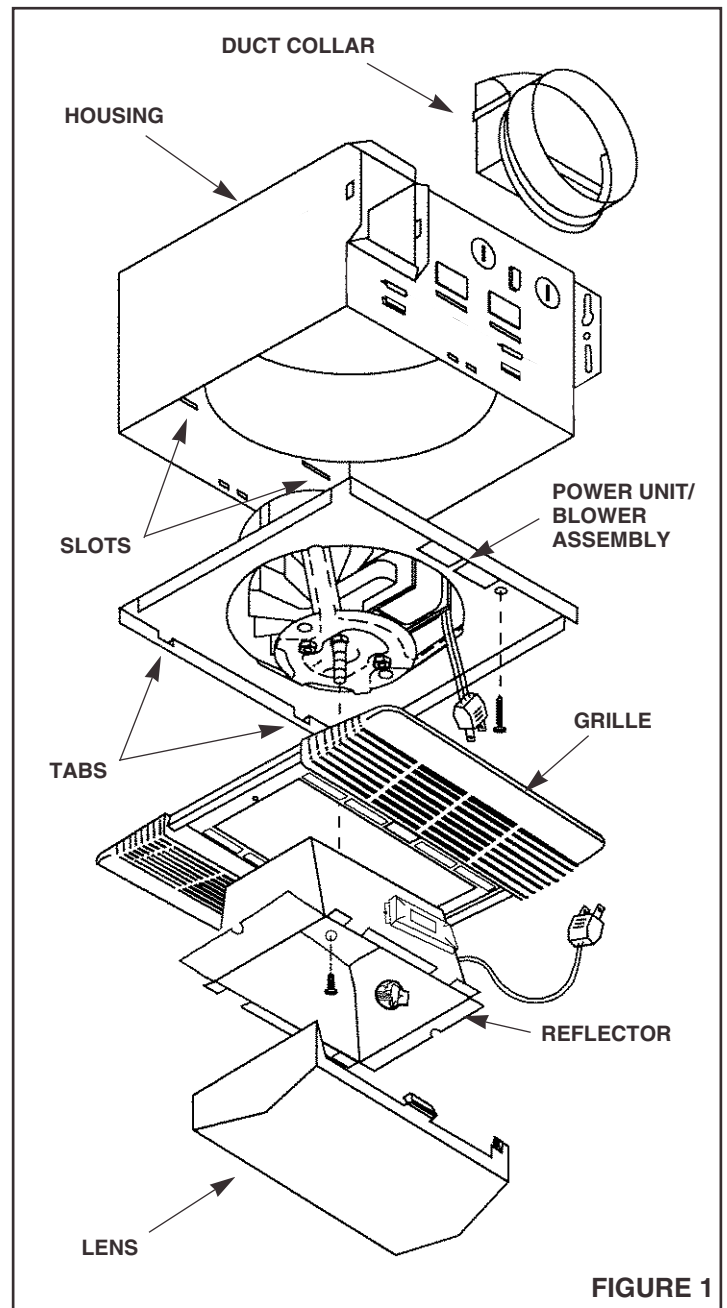

FIGURE 1
2. **Refer to Figure 1.** Remove power unit/blower assembly from the housing. Remove screw and pull power unit assembly tabs out of slots in housing. Set unit aside until needed.